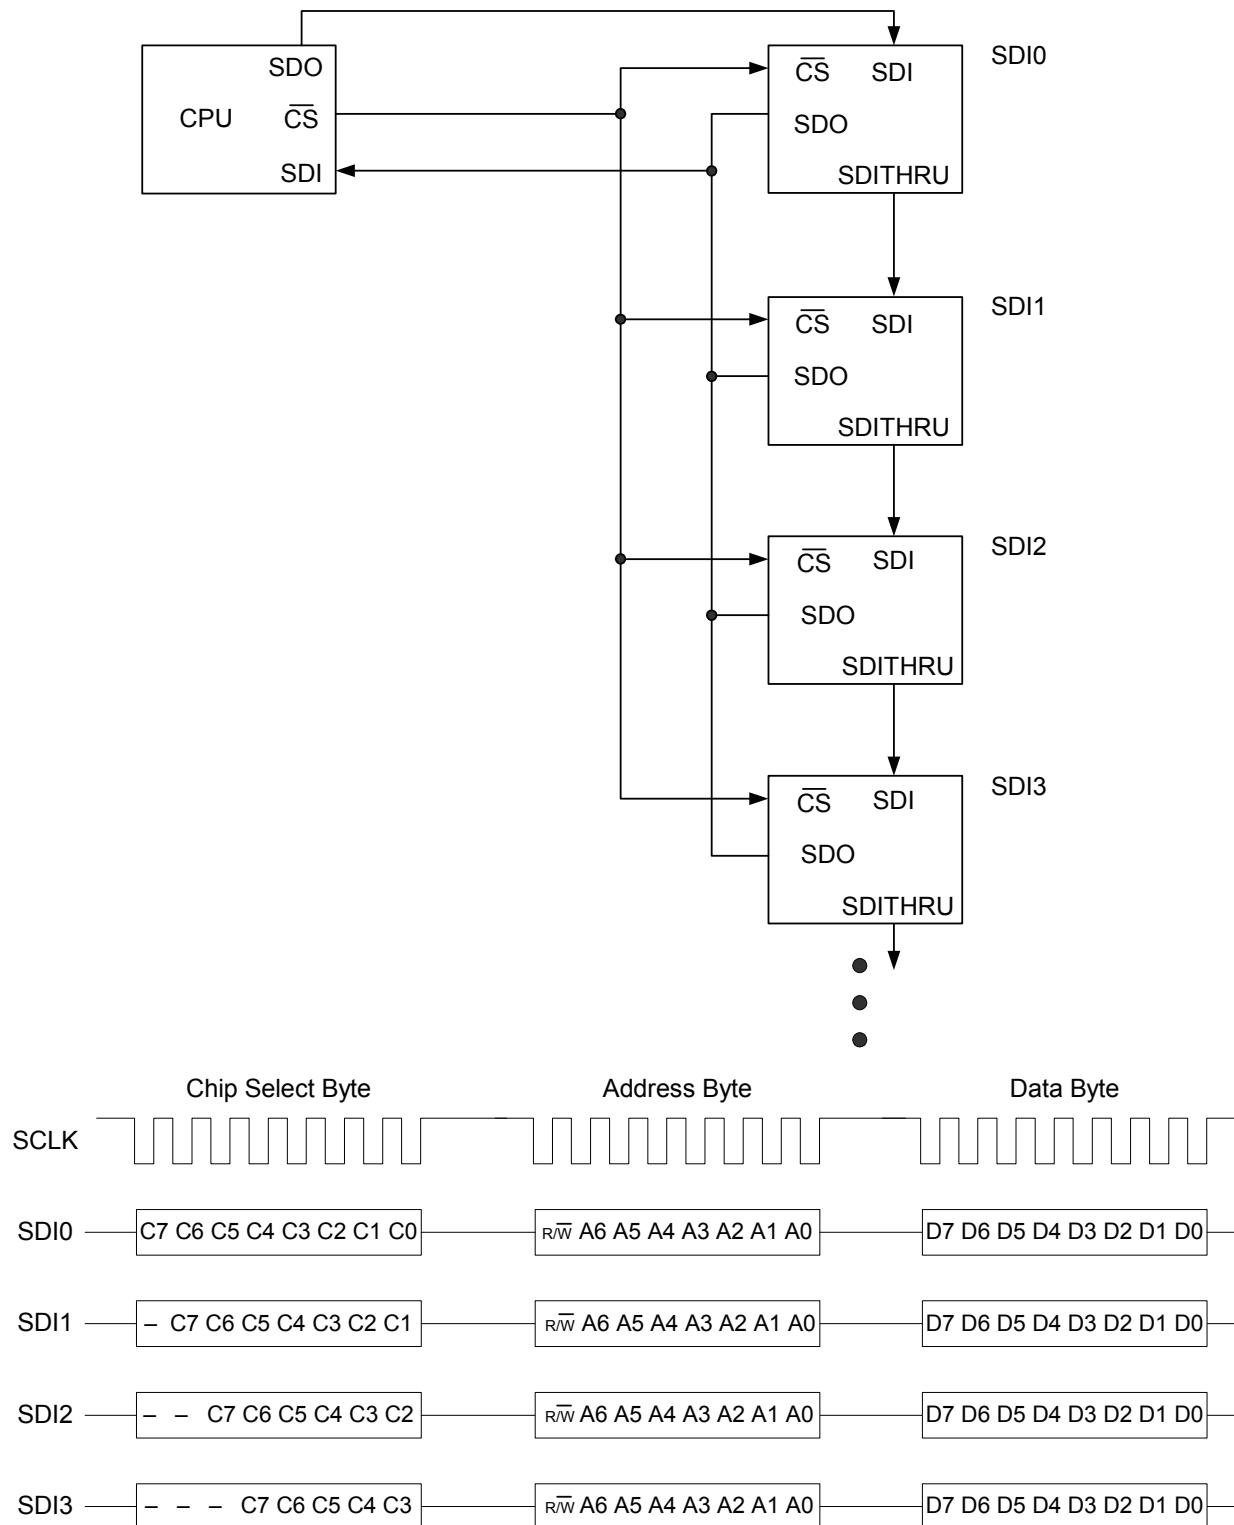

Figure 28. SPI Daisy Chain Mode
- **Daisy Chain Mode:** This mode allows communication with banks of up to eight ProSLIC devices using one chip select signal. When the SPIDC bit in the SPI Mode Select register is set, data transfer mode changes to a 3-byte operation: a chip select byte, an address/control byte, and a data byte. Using the circuit shown in Figure 28, a single device may select from the bank of devices by setting the appropriate chip select bit to 1. Each device uses the LSB of the chip select byte, shifts the data right by one bit, and passes the chip select byte using the SDITHRU pin to the next device in the chain. Address/control and data bytes are unaltered.